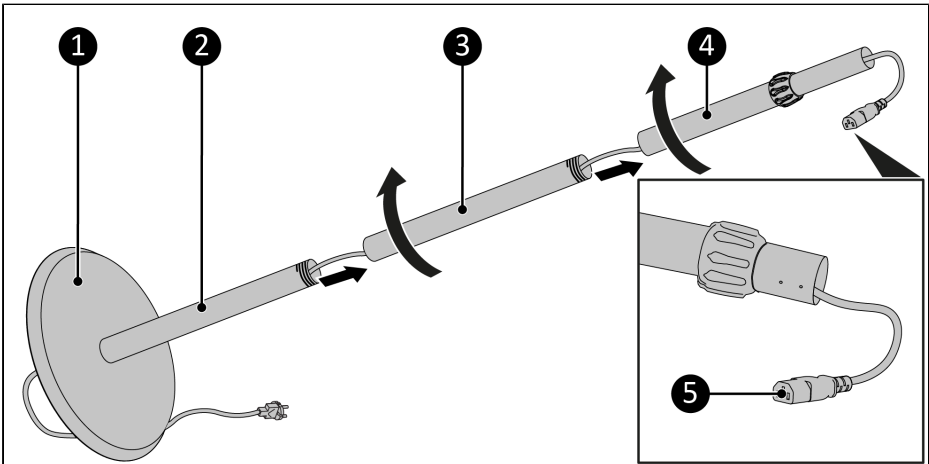

Figure 19.
3. Guide the female plug from the power cord (Figure 19, pos. 5) through the opening on the bottom side of the base (Figure 19, pos. 1) and the bottom tube (Figure 19, pos. 2).
4. Guide the female plug from the power cord through the middle tube (Figure 19, pos. 3) and afterwards screw the middle tube on the bottom tube.
5. Guide the female plug from the power cord through the adjustable tube (Figure 19, pos. 4) and afterwards screw the adjustable tube on the middle tube.